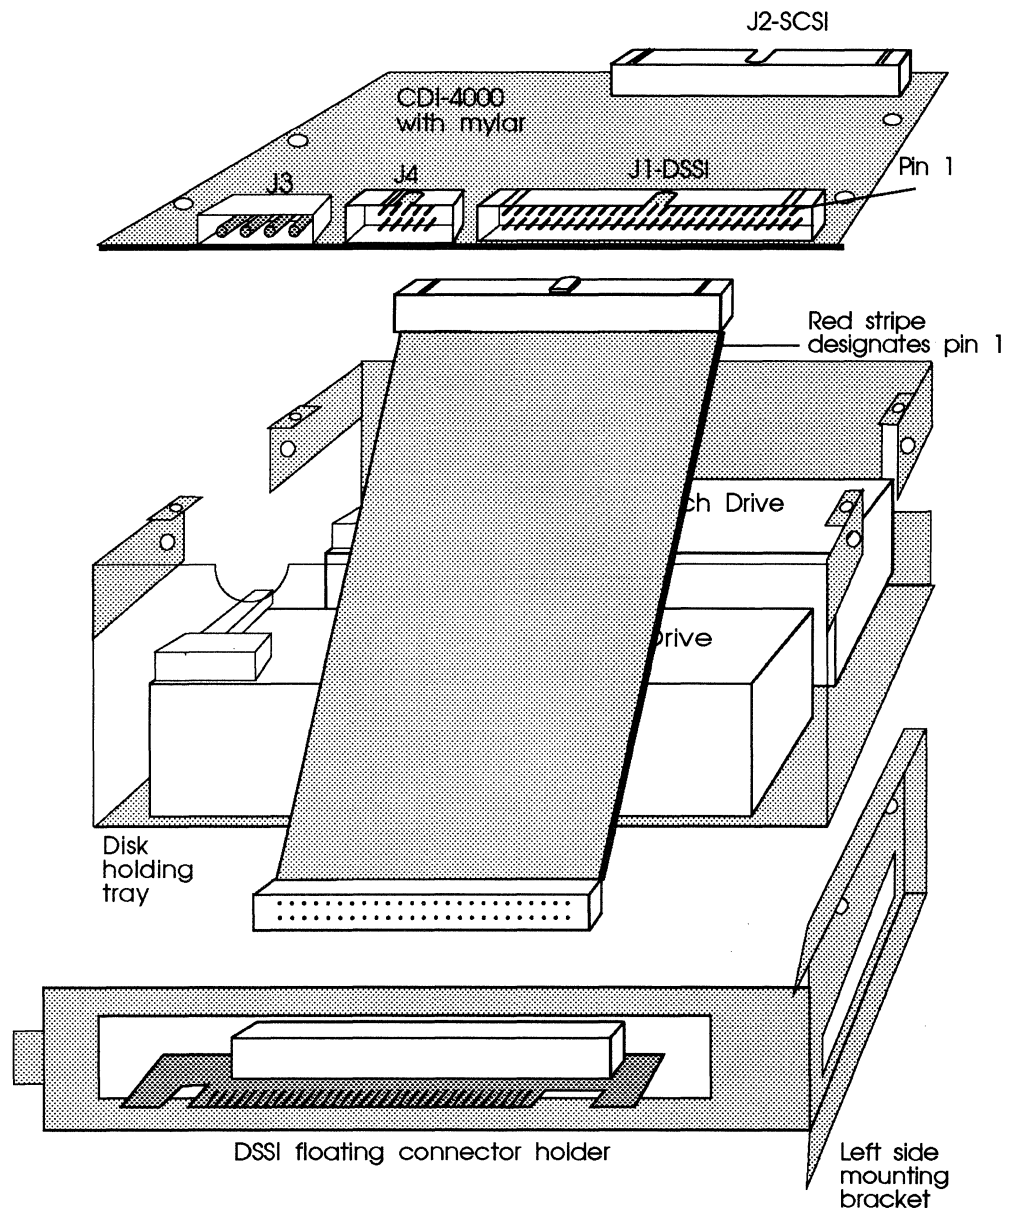

Figure 4-24: CDI-4000-SA2 DSSI cable connections
- 7 Locate the DSSI cable; connect one end to the DSSI connector, J1, on the CDI-4000; connect the other end to the DSSI connector on the back of the floating connector holder. See Figure 4-24.